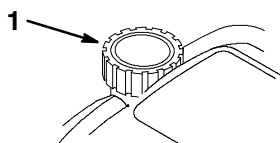

Figure 33
8. Fill the fuel tank (Fig. 33) with fresh, clean gasoline.